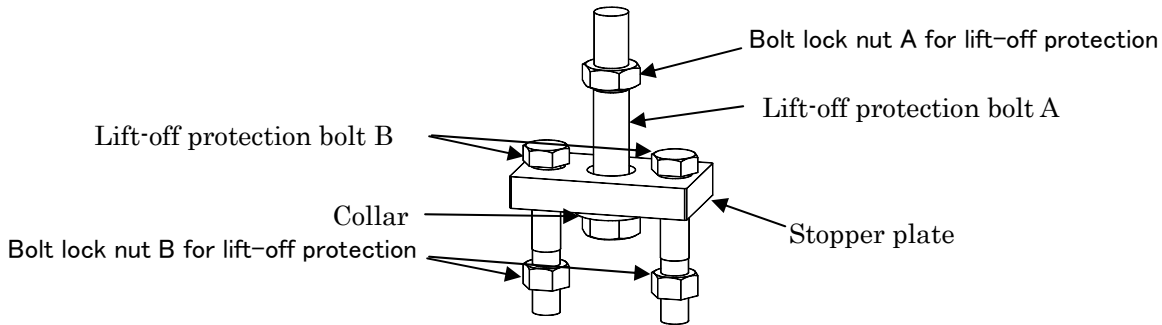

Fig.5
① Install the Lift-off protection metals attached to the same condition as shown in Fig.5.